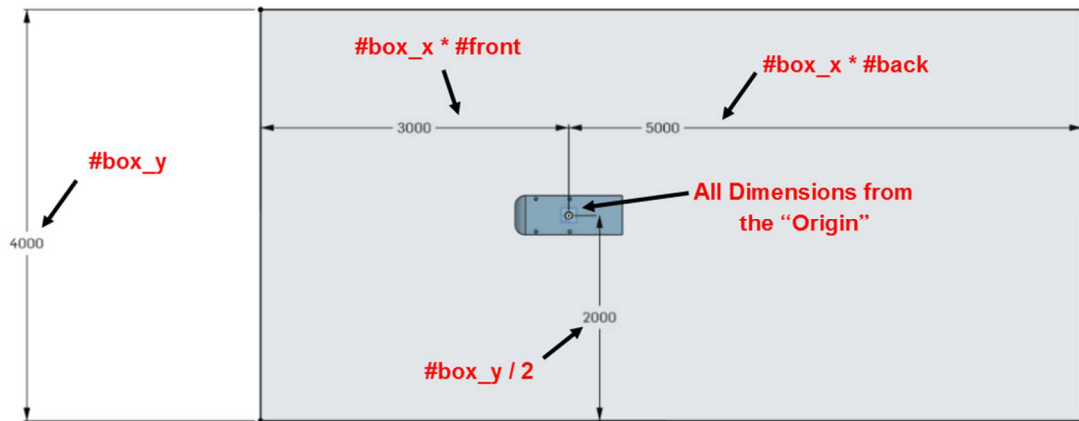

Figure 2.1: Using variables to dimension the rectangle.
| Figure 2.1: Using variables to dimension the rectangle | 5 |
- 4) You can dimension the square using the variables created in step 1 of this section. The “box_x” variable can be multiplied by the “front” and “back” variable to get dimensions of front and back of the enclosure box from the “Origin”. The figure 2.1 below shows the completed sketch.